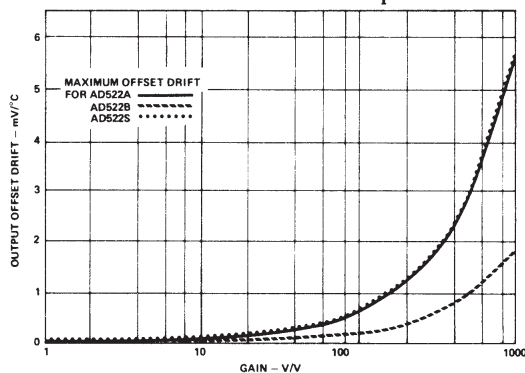

Figure 3. Output Offset Drift (RTO) vs. Gain
vs. Temperature, max (see Fig. 3)
**Offset Voltage and Current Drift:** The AD522 is available in three drift selections. Figure 3 is a graph of maximum RTO offset voltage drift vs. gain for all versions. Errors caused by offset voltage drift can thus be determined for any gain. Offset current drift will cause a voltage error equal to the product of the offset current drift and the source impedance unbalance.